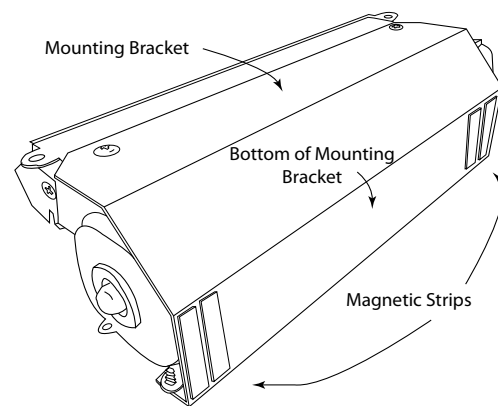

Fig. 4 Magnet placement
5. Cut the magnets in half using tin snips as shown on front page. Peel the protective coating from the magnets place them on the bottom of the mounting bracket as shown in Fig 4.